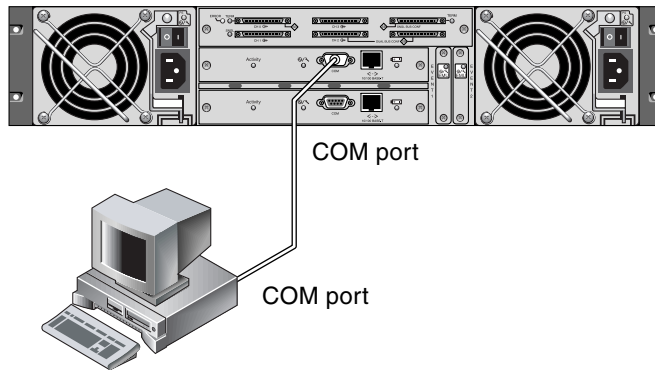

FIGURE D-1 RAID Array COM Port Connected Locally to the COM Port of a Workstation or Computer Terminal
1. **Connect the RAID array COM port to a serial port of a Solaris workstation** (see FIGURE D-1).